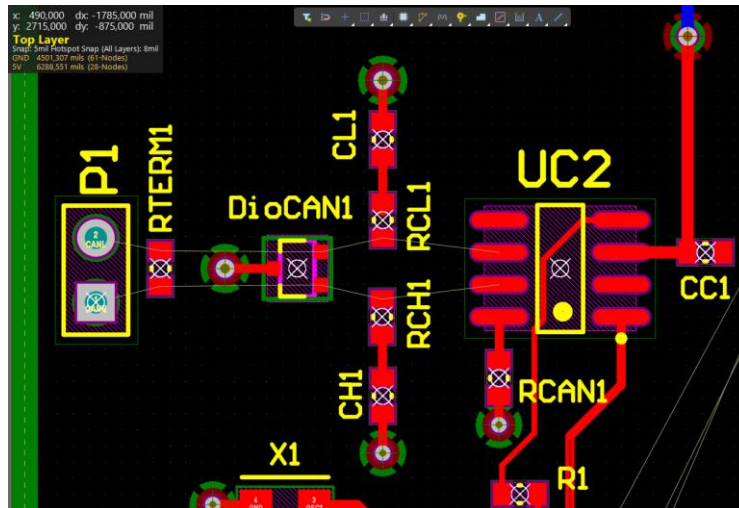

Figure 9. Connection lines (known as a rats nest) between un-routed components
25. Zoom into the area of the board near the upper left portion of the PCB shown in Figure 9 below. We will now route the connections between components P1, RTERM1, DioCAN1, CH1, CL1, and UC2 through the following procedure: